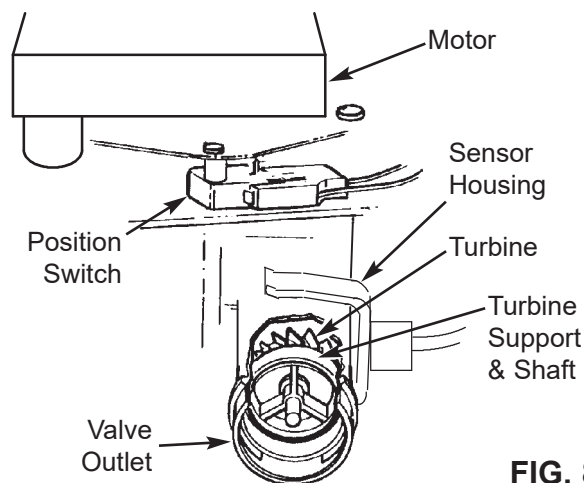

FIG. 87
6. If the display reading does not change with the faucet open, pull the wire harness from the valve outlet port (See Figure 87).